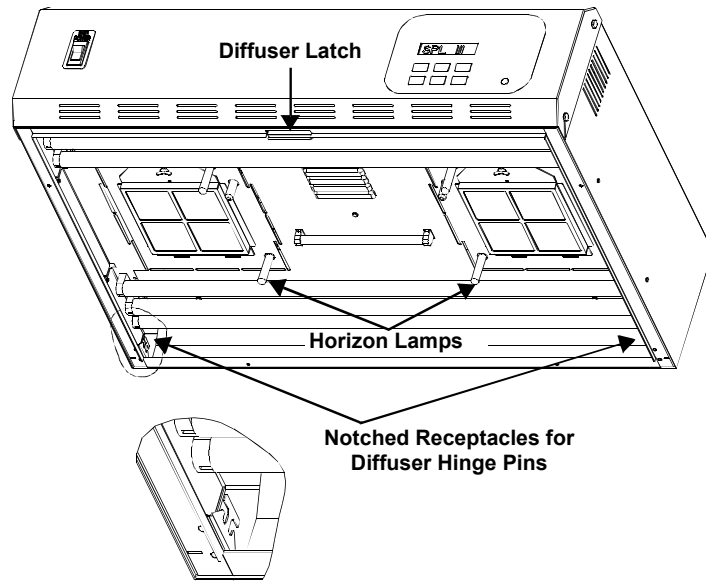

Figure 11. Luminaire Showing Diffuser Mounting
- Insert the diffuser hinge pins into the front of the slotted receptacles located at the bottom rear corners of the luminaire housing. Refer to Figure 11.